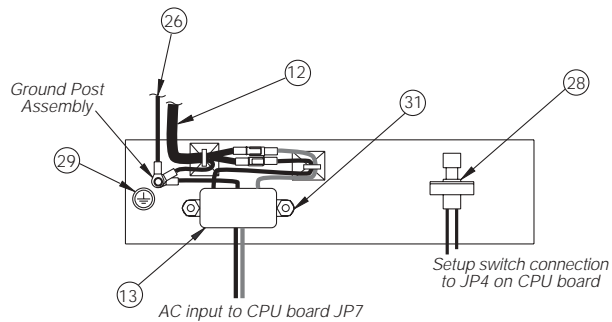

Figure 2-7. Line Filter Assembly
5. Remove the standoffs that secure the line filter to the enclosure (see #31 in Figure 2-7 on page 10). The line filter can now be lifted off of its studs and rotated.